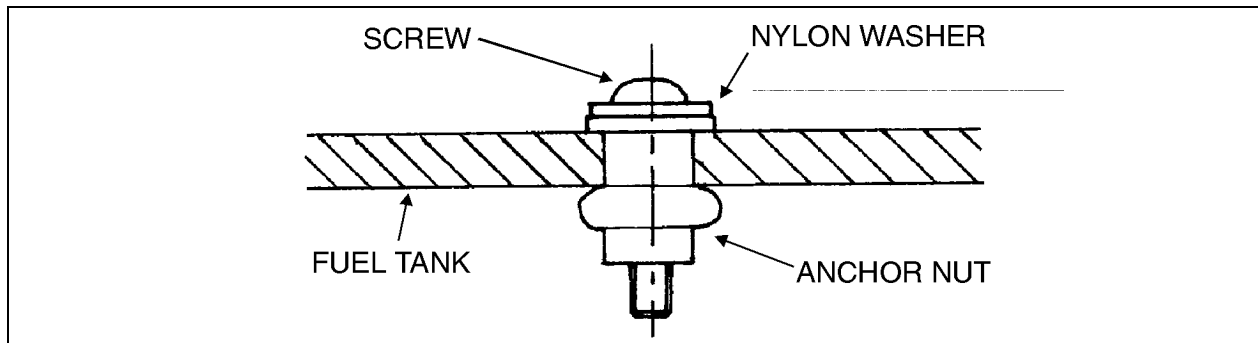

FIGURE 8: POLYETHYLENE FUEL TANK REPAIRATION
4. Insert assembly in the hole on the fuel tank, and tighten by doing 10 complete turns of screw (Fig. 8).